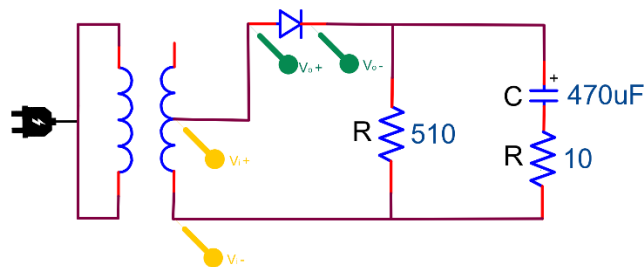

Figure 4.8
4. Construct Figure 4.8. Use the oscilloscope to measure the voltage across the diode in the reverse direction (positive side of probe on the diode's cathode) as shown in Figure 4.8. The peak value of this voltage is referred to as the peak inverse voltage. What is the relationship between this voltage and the DC voltage produced by the power supply?